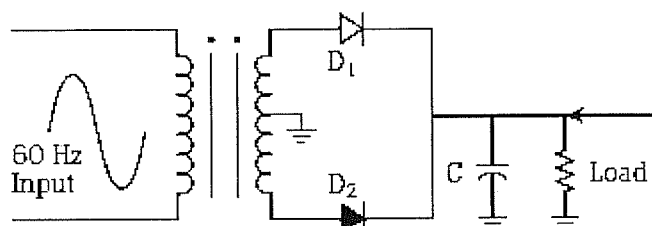

Figure 02
- (1) Compare RF and AF amplifiers
- (2) Explain the operation of an amplitude limiter using the circuit diagram of a typical transistor limiter.
- (3) Draw the waveforms you will observe on an oscilloscope for the following faulty conditions based on the circuit shown in Figure 02. For each scenario, clearly indicate the frequency of the observed signals.